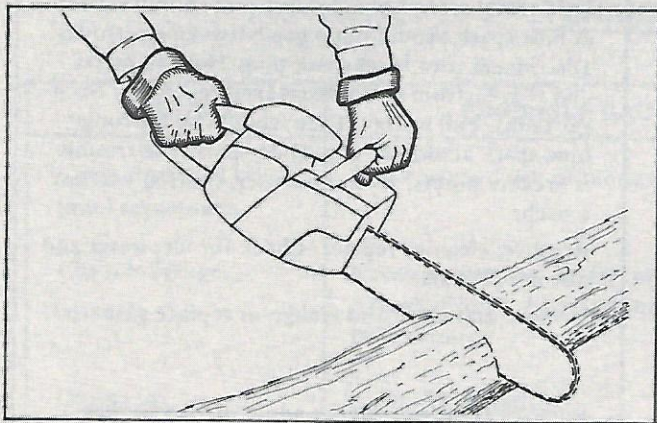

FIG. 4
6. Always hold the chain saw firmly with both hands when the engine is running. Use a firm grip with thumbs and fingers encircling the chain saw handles. See Figure 4.